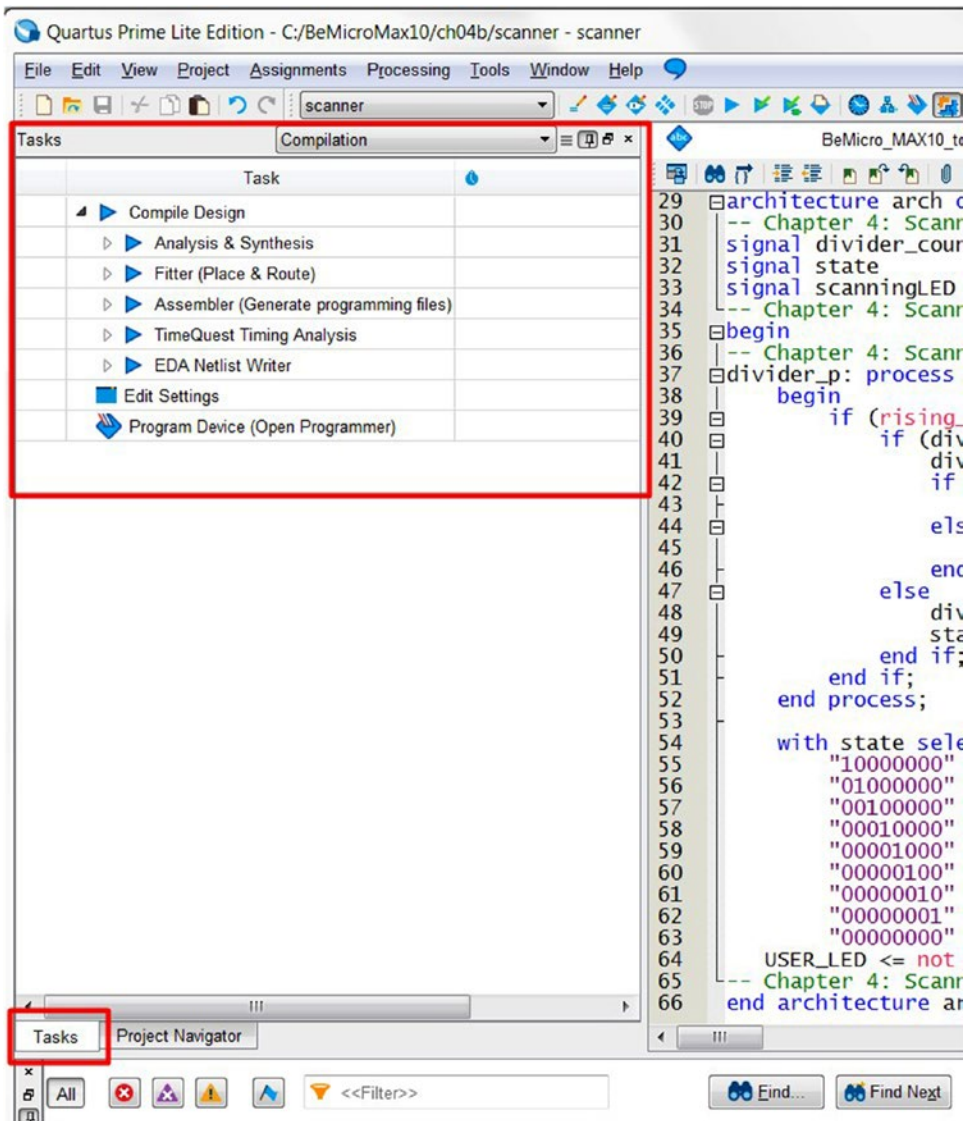

Figure 4-25. Switch to Tasks view.
4. Click the **Task** tab to switch to the Tasks view. It will look like Figure 4-25.